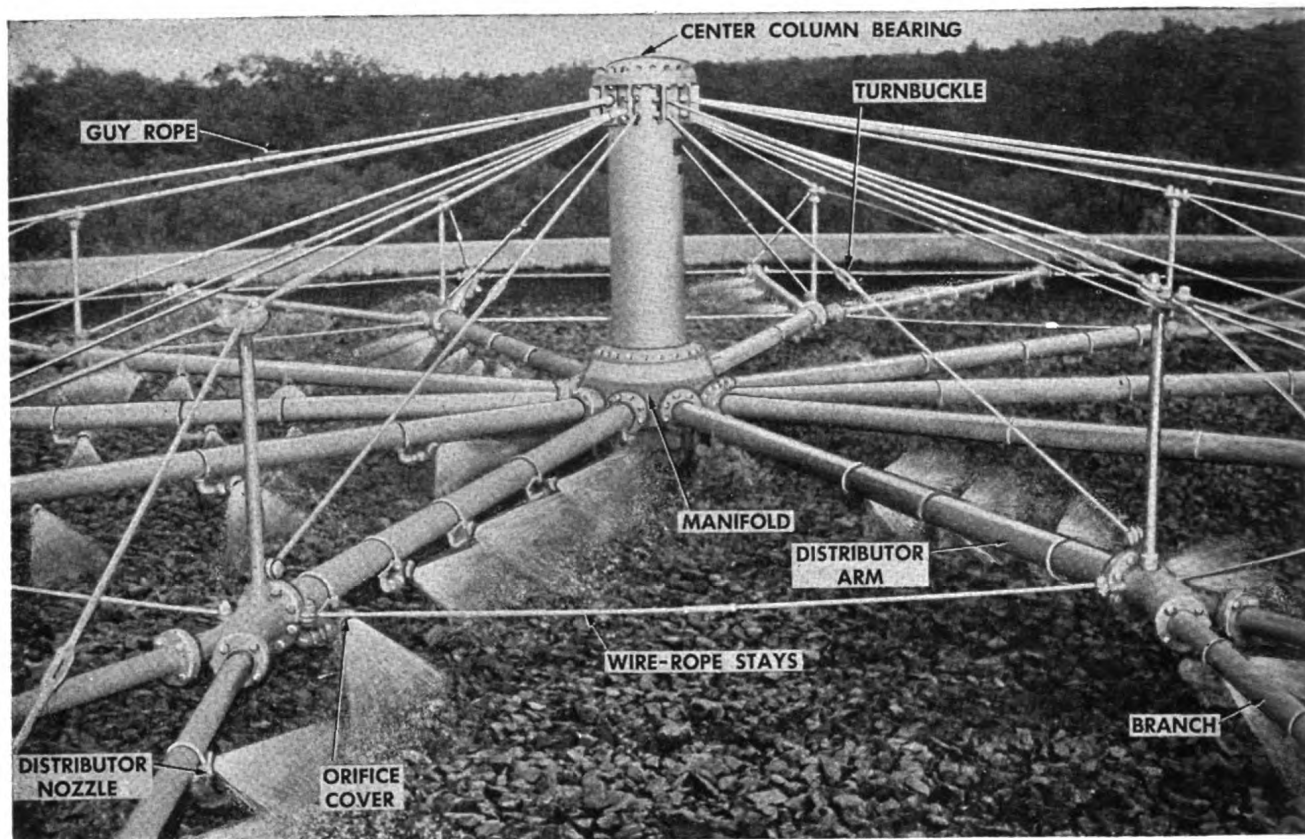

Figure 33. Chain-belt distributor for aerofilter.
g. SERVICE MERCURY SEAL. (1) Place receptacle under drain plug (1), open plug, and drain mercury from seal. Flush seal thoroughly with a garden hose attached to mercury inlet.
(2) Wash drained mercury before pouring it back into seal. Place it in a container with a tight lid, such as a clean paint can without soldered joints, add water, shake vigorously, and then decant water. Repeat until mercury is clean.
(3) To remove any grit, place mercury on dampened chamois skin; water passes through chamois and grit particles adhere to chamois when mercury is poured off. Repeat procedure several times if necessary.
(4) If mercury has become badly sludged, dissolve grease with kerosene, then treat with 50 percent concentrated solution of nitric acid and wash with sodium bicarbonate solution to neutralize acid. After two or three washings in water, mercury is ready for use.
h. INSPECT AND SERVICE DISTRIBUTOR NOZZLES. To clean nozzles, unscrew orifice cover (fig. 33) and remove any debris. Before replacing orifice cover, apply a little grease or Tite-Seal compound (furnished with equipment) to threads to prevent leakage.